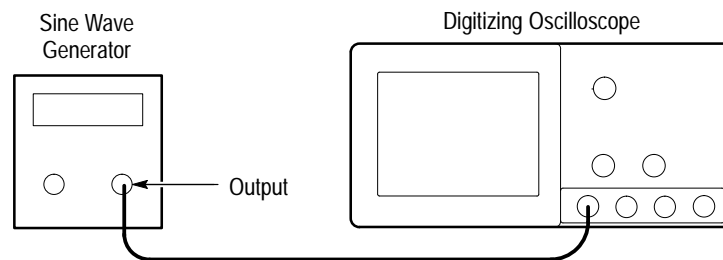

Figure 1–13: Initial Test Hookup
c. *Hook up the test-signal source:* Connect, through a 50  $\Omega$  precision coaxial cable, the signal output of a sine wave generator to **CH 1** (see Figure 1–13).